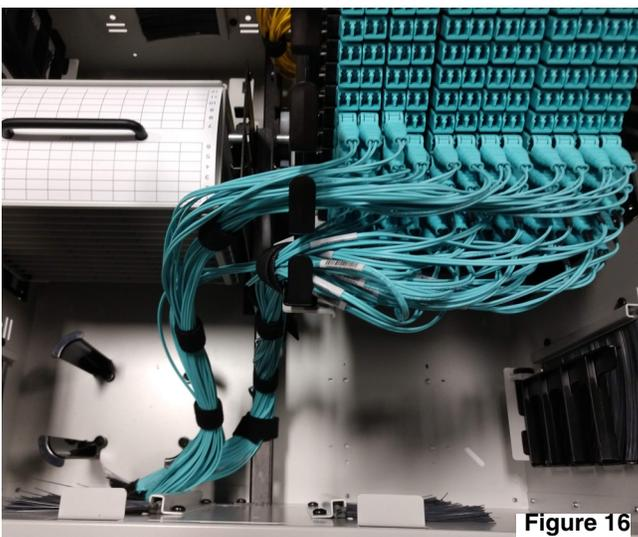

Figure 16
c. Route 2nd fiber bundle of 72 fiber cables through brushes in opening as shown. Bring fiber bundle up towards the patch panel. Route bundle through 2nd bottom position in 4RU cable manager. Secure bundle to 4RU 2nd position with hook-n-loop. (See Figures 16 through 17).